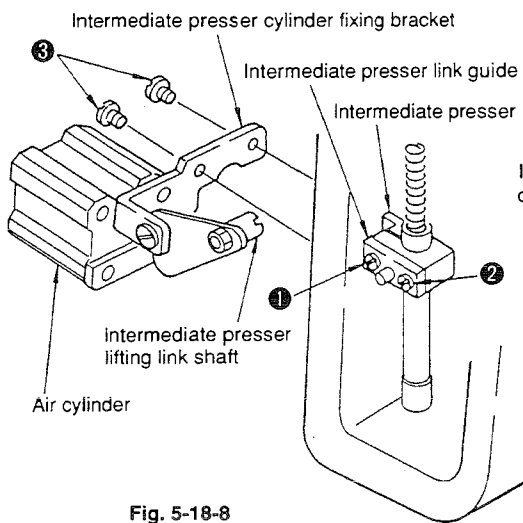
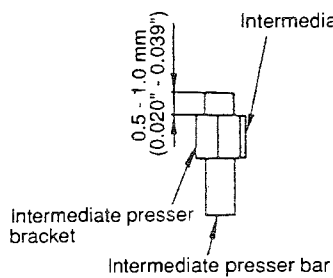
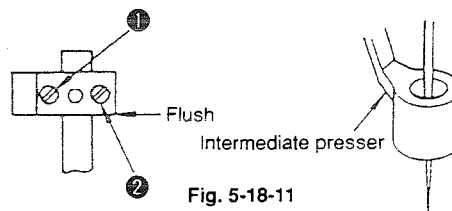
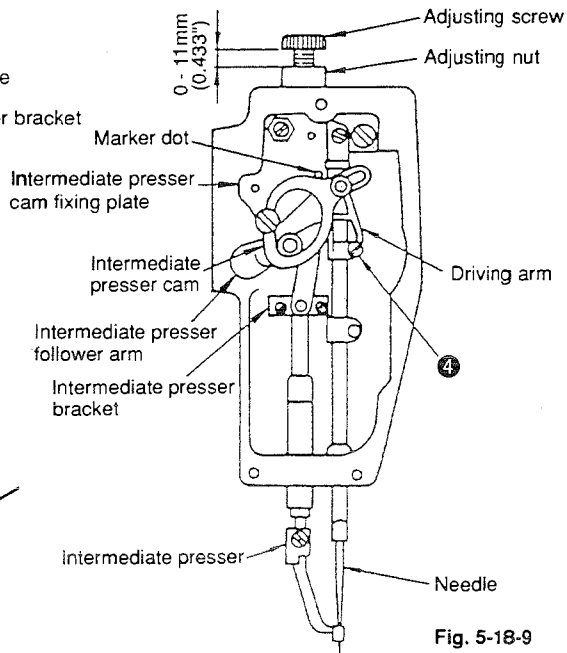

Fig. 5-18-8
Fig. 5-18-10
Fig. 5-18-11
Fig. 5-18-9
(Fig. 5-18-10)
(Fig. 5-18-11)
(Fig. 5-18-9)
(Fig. 5-18-8)
<p>2) Loosen screws ① and ② in the intermediate presser link guide, and adjust so that the bottom face of the intermediate presser link guide is flush with the bottom end of the intermediate presser bracket. Then, tighten screw ②. (Fig. 5-18-10)</p> <p>3) 4) Further adjust so that the intermediate presser bar protrudes 0.5 to 1 mm (0.020" to 0.039") from the top face of the intermediate presser bracket and that the needle enters the center of the needle hole in the intermediate presser. Then tighten screw ① in the intermediate presser link guide. (Fig. 5-18-10) (Fig. 5-18-11)</p> <p>5) 6) Loosen screw ④. Turn the main shaft by hand to bring the needle bar to its highest dead point. Move the intermediate presser driving arm up or down to adjust so that the periphery of the intermediate presser cam aligns with the lower edge of the red marker dot. Then tighten the screw. (Fig. 5-18-9)</p> <p>7) Adjust so that a clearance of 0 to 11 mm (0.433") is provided between the intermediate presser adjusting screw and the nut of the adjusting screw. (Fig. 5-18-9)</p> <p>8) Loosen screws ③, and adjust the attaching position of the intermediate presser cylinder fixing bracket so that the bottom of the intermediate presser bracket does not come in contact with the intermediate presser lifting link shaft when the intermediate presser is in its lowest dead point. (Fig. 5-18-8)</p> <p>9) Loosen screw ③, and adjust the attaching position of the intermediate presser cylinder fixing bracket so that the max. lifting amount of the intermediate presser becomes 14 mm (0.551"). (Fig. 5-18-8)</p> <p>[Note] The max. lifting amount of the intermediate presser is the difference in height between the lowest dead point and the highest point of the intermediate presser.</p> <p>10) Loosen screw ③, and adjust the attaching position of the intermediate presser cam fixing plate so that the intermediate presser cam fixing plate does not come in contact with the intermediate presser follower arm when the intermediate presser is brought to its highest position. (Fig. 5-18-8)</p>	<ul style="list-style-type: none"> o The intermediate presser may fail to go up after the completion of a sewing cycle. o The needle would fail to enter the center of the needle hole in the intermediate presser, resulting in formation of loose stitches or the needle touching the intermediate presser. o Inadequate pressure of the intermediate presser would lead to stitch skipping. o Oil would leak from the wiper link plate. o The lifting amount of the intermediate presser is insufficient. o Metallic noise (like click-clack) is heard while the intermediate presser actuates.